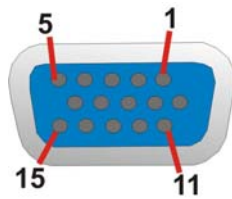

Figure 4-22: VGA Connector
- CN Pinouts:See Figure 4-22 and Table 4-23